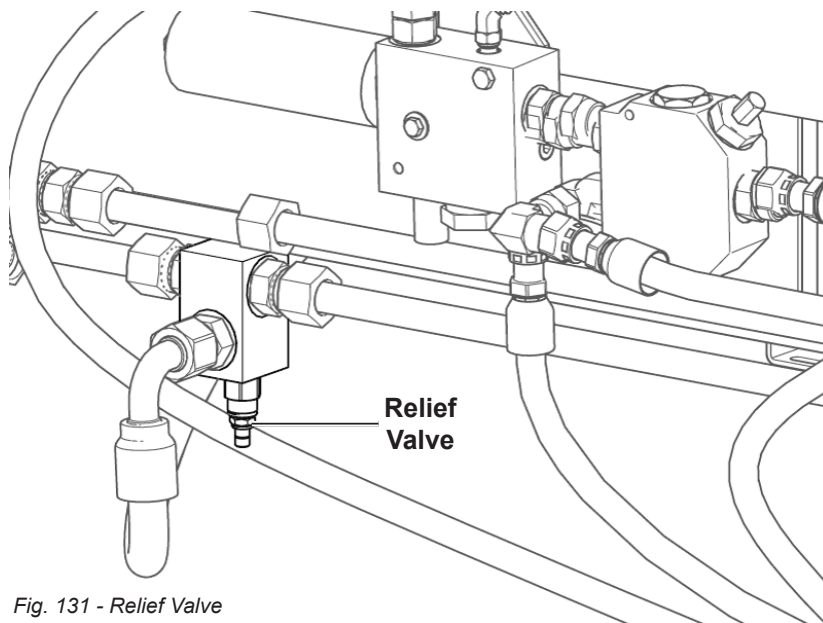

Fig. 131 - Relief Valve
4. Locate the relief valve on the left side of the header (**see Fig. 131**). Adjust the relief screw; turning clockwise increases pressure, and counter-clockwise decreases pressure setting.